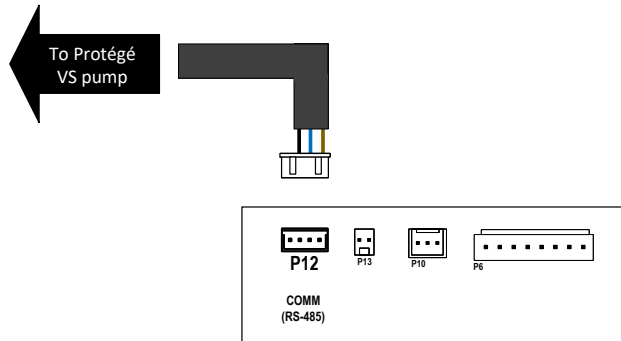

Figure 139. Wiring 24VAC Relays
3. Then connect the other end of the RS-485 Modbus harness to the terminal labeled as “COM” [P12] on the control board. See Figure 139.